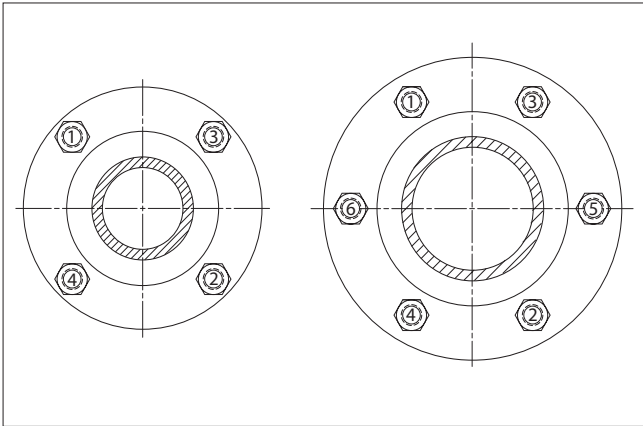

Figure 3. Bolt Tightening Sequence
16. Place the body cap (2) over body studs (12) being careful to properly orient body cap and body as originally assembled by matching orientation marks made prior to disassembly. Take care not to damage body gasket (65) or seat (7) during this operation.
17. Lubricate the threads and face of nuts (16) with NeverSeez® or equivalent. Install nuts (16) on body studs (12) so that material identification marks will be visible after tightening. Tighten sequentially as shown in the diagram (**Figure 3**), to the recommended torques as shown in the torque chart (**Table 3**).